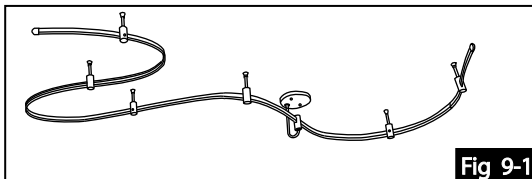
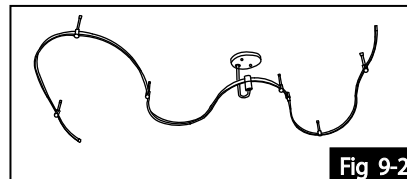

Fig 9-1
Fig 9-2
7. Shape the flexible track as you desire. Mark the desired positions and drill them on the ceiling for the rest of the rail supports. (See Fig 9-1 & Fig 9-2).